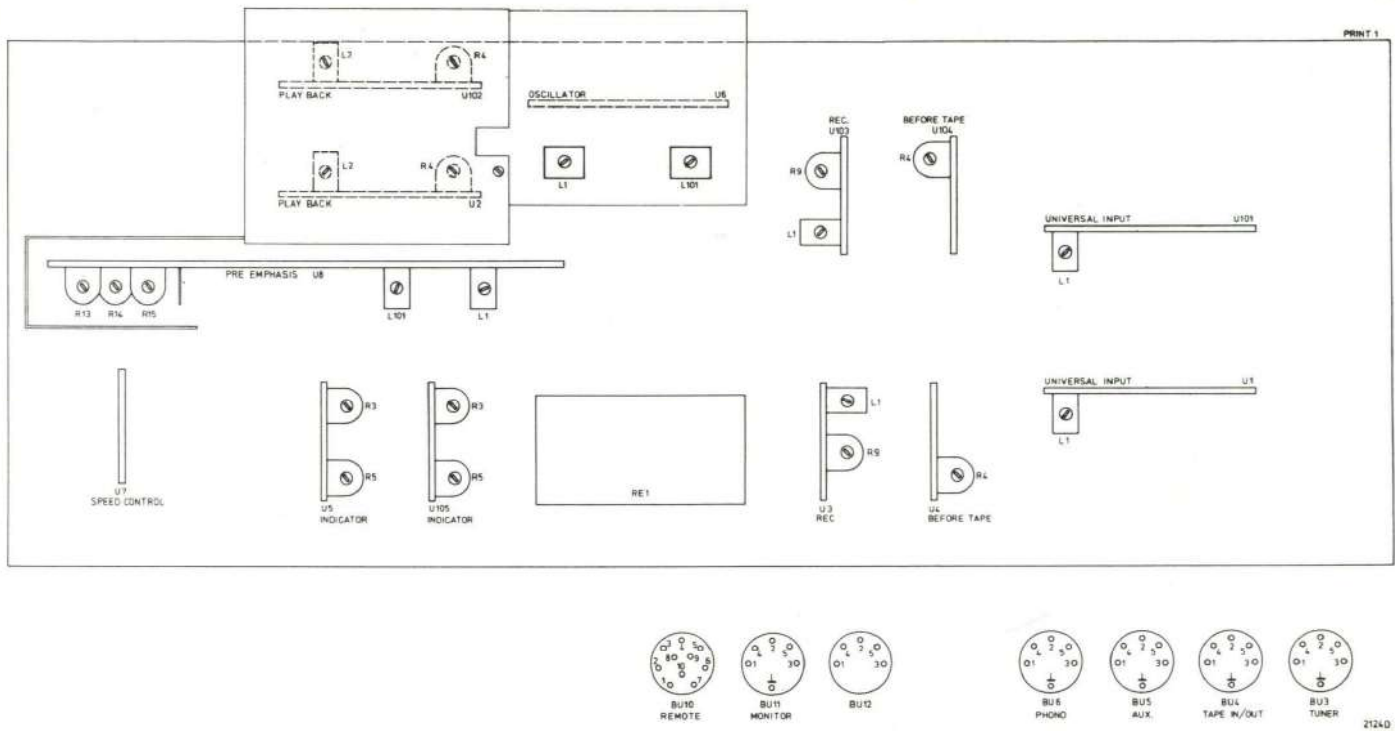

Fig. 17
I. MEASUREMENTS TO FUNCTIONAL UNITS (Fig. 17)